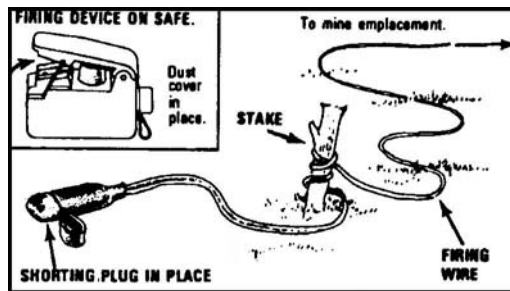

Figure 071-325-4425-4. Firing wire secured
- a. Tie the shorting plug end of the firing wire to a fixed object such as a stake or tree at the firing position (figure 071-325-4425-4).